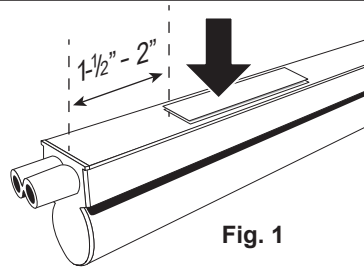
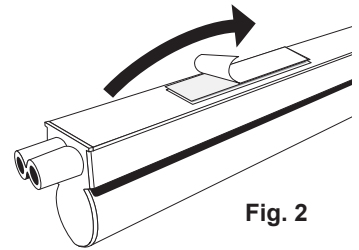

Fig. 1
Fig. 2
Install the fixture between 12 in. to 39 in. above the top of the plants (**Fig. 1**).
1. Wipe the light down with a dry cloth. DO NOT separate the 2 sides of the velcro strips. Remove the liner on one side of the velcro strips (**Fig. 1**). Press 1 each of the strips down firmly on the back side of the fixture approximately 1-1/2" to 2" in from each end and 1 centered (in the gray areas) as shown. Remove the liner from the top side of both pairs of strips (**Fig. 2**). Press the fixture firmly into place. Hold in place for 30 seconds.